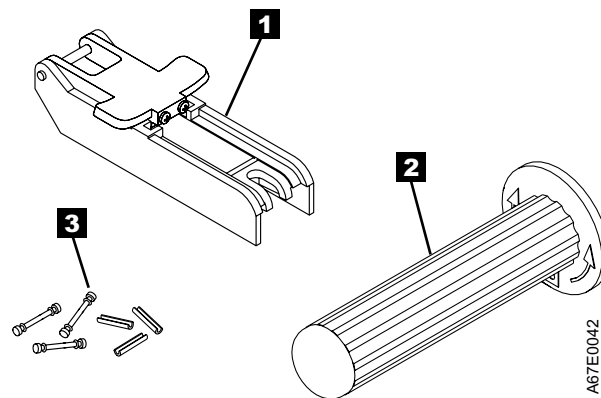

Figure 57. Leader Pin Reattachment Kit
- **Leader pin attach tool** (see **1** in Figure 57). A plastic brace that holds the cartridge door open.
- **Cartridge manual rewind tool** (see **2** in Figure 57). A device that fits into the cartridge's hub and lets you wind the tape into and out of the cartridge.
- **Pin supplies** (see **3** in Figure 57). Leader pins and C-clips.